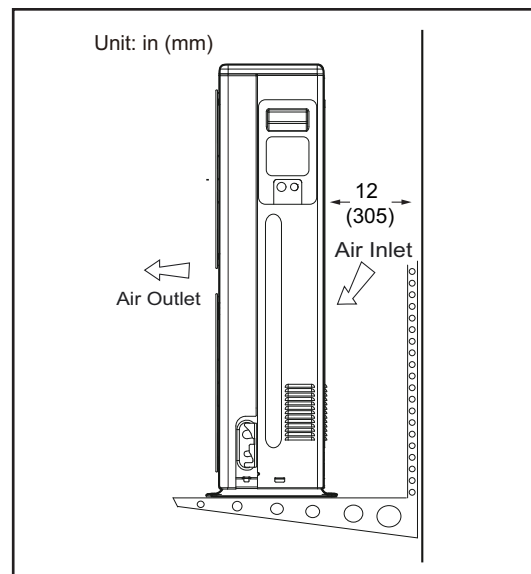

Fig. 36 —Securing Outdoor Unit to Wall-Mounted Brackets
- Use lag bolts or equivalent to secure the outdoor unit to the wall-mounted brackets. Figure 36.